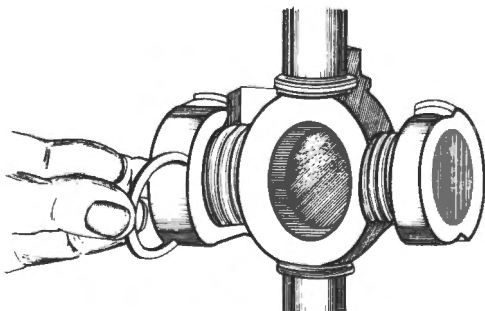

Fig. N-2
- 1 Remove bearing retaining circlips. Fig. N-2.
- 4 Insert the bearing on the opposite side of the yoke. Press the bearing into the yoke in the same manner as the previous one and fit the circlip. The circlip must be fitted with the gap towards the yoke. Fig. N-2.